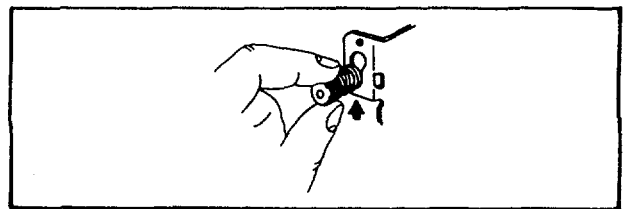

Fig. 25
- 1800 R.P.M., 60 cycle or 1500 R.P.M., 50 cycle generators -- Push speed adjusting nut in and up to release spring tension, Fig. 25. Start engine and pull out on speed adjusting nut to the maximum length of travel. Set engine speed to 2800 R.P.M. by bending governor tang, Fig. 21. With engine still running, return speed adjusting nut to slot and turn nut to obtain 1875 R.P.M., 60 cycle, or 1600 R.P.M., 50 cycle, no load.
- 3600 R.P.M., 60 cycle or 3000 R.P.M., 50 cycle generators -- Push speed adjusting nut in and up to release spring tension, Fig. 25. Start engine and pull out on speed adjusting nut. Set engine speed to 4600 R.P.M. by bending governor tang, Fig. 21. With engine still running, return speed adjusting nut to slot and turn nut to obtain 3700 R.P.M., 60 cycle, or 3100 R.P.M., 50 cycle, no load.
- 1800 R.P.M., 60 cycle or 1500 R.P.M., 50 cycle generators -- Push speed adjusting nut in and up to release spring tension, Fig. 25. Start engine and pull out on speed adjusting nut. Set engine speed to 2600 R.P.M. by bending governor tang, Fig. 21. With engine still running, return speed adjusting nut to slot and turn nut to obtain 1875 R.P.M., 60 cycle or 1600 R.P.M., 50 cycle, no load.
- 3600 R.P.M., 60 cycle or 3000 R.P.M., 50 cycle generators -- Push speed adjusting nut in and up to release spring tension, Fig. 25. Start engine and pull out on speed adjusting nut. Set engine speed to 4200 R.P.M. by bending governor tang, Fig. 21. With engine still running, return speed adjusting nut to slot and turn nut to obtain 3700 R.P.M., 60 cycle or 3100 R.P.M., 50 cycle, no load.